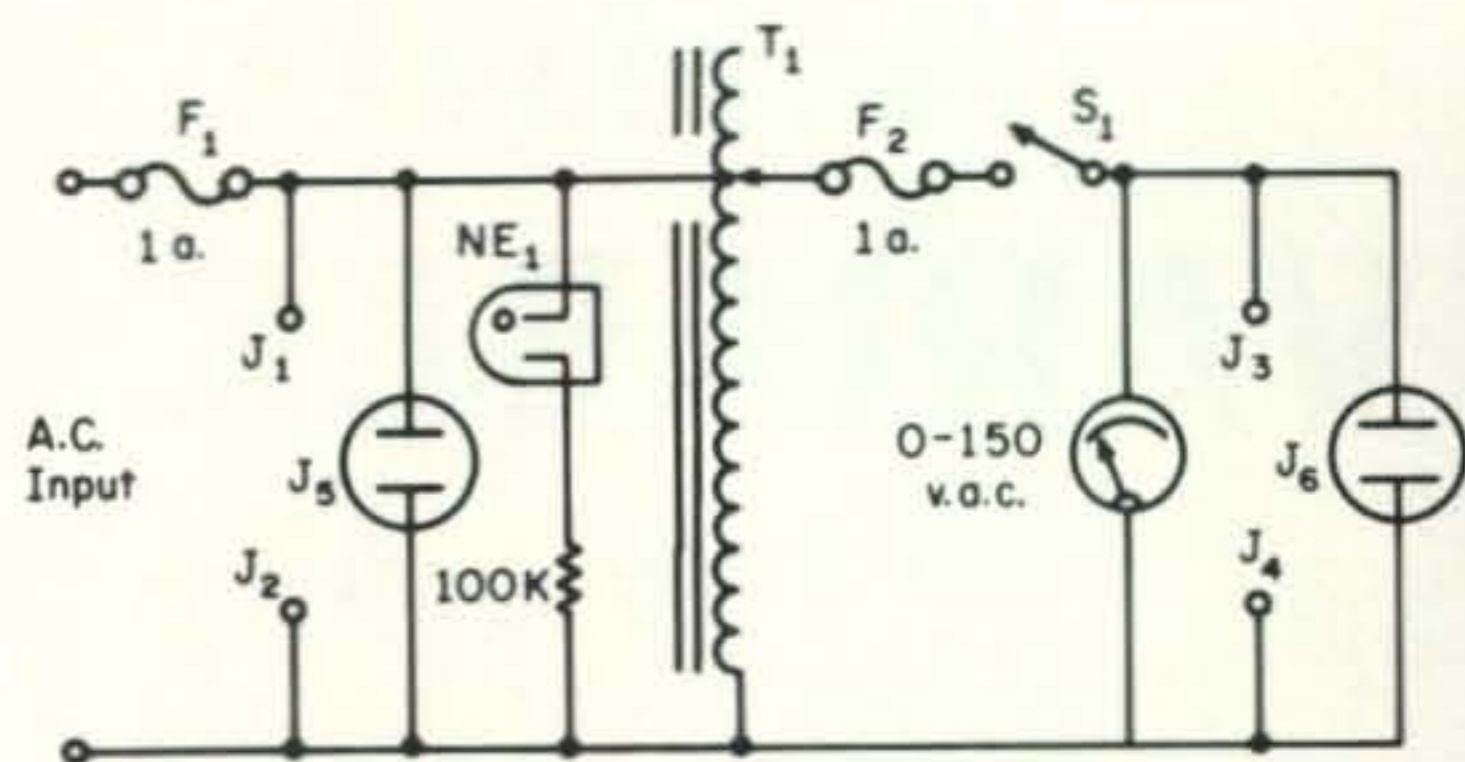

Fig. 2—Variable a.c. voltage source circuit diagram. Jacks J_5 and J_6 are a.c. outlets and T_1 is a variable auto transformer.
Several methods of connecting a carbon button are shown in fig. 2. Method (A) is the accepted conventional means of coupling. In (B), the microphone is a variable element in a voltage divider. The a.c. component is taken off through the capacitor, which should be in the neighborhood of 1 to 5 mf. The output of this circuit, of course, would be much lower than method (A).
Figures 2 (D) and (E) show the microphone replacing the biasing elements in a transistor stage. Let me repeat that methods (B) through (E) are non-conventional. Method (A) works best, and unless you are experimenting, that is the one you should use.
A device which I built many years ago is shown in fig. 2 and it has been a very useful item. It provides me with a variable source of a.c. voltage from 0 to 135 volts (my unit limits me to 1.25 amperes). But, you could substitute any of the common variable auto-transformers in the circuit, changing only the size of the fuse, dependent upon the current rating of the auto-transformer. Notice that the auto-transformer does *not provide isolation* between the input and output! Therefore, you need the isolation transformer to eliminate the shock hazard. (It should be men-
I added some pin jacks in parallel with the input and output sockets so that I could use test leads with alligator clips and/or other assorted connectors. From the photograph the a.c. outlet on the lower left is in parallel with the input power (also the pin jacks directly above). The outlet on the right and the pin jacks directly above are in parallel with the output of the auto-transformer. The meter indicates the output voltage at all times. Switch S_1 opens and closes the output circuit so that you can work on the equipment being tested with no voltage applied. From fig. 2 you can see that both the input and output of the transformer are fused.